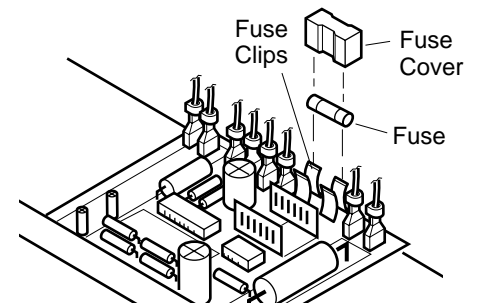

Figure 21 - Replacing Fuse
2. Remove side cover screws (4) using 5/16" nut-driver to expose ignition control assembly.
3. Remove fuse cover (see Figure 21).